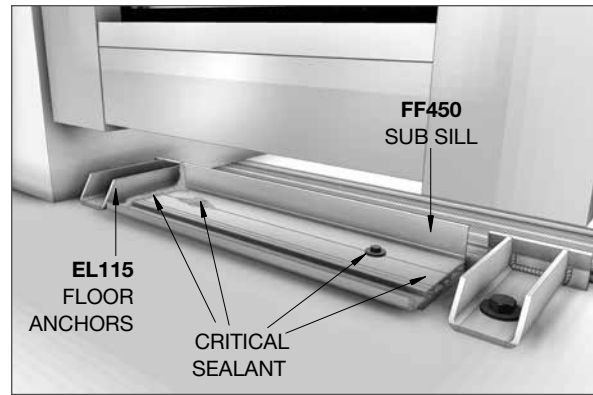

FIG. 20
3. Place the Fixed Panel on top of the FF450 secured Subsill and the EL115 Fixed Panel Floor Anchors (FIG. 20). Follow the upper head mounting procedures in Step 4 Section 4-6 (FIG. 12).